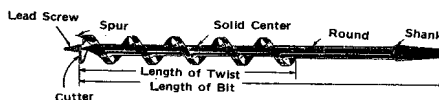

FIGURE 1. Auger Bit.
- 2.02 *Auger Bit*: This bit consists of a solid center twist provided with a head containing a single cutter, a single spur, and a lead screw, the threads of which are 14 per inch on the three smaller sizes and 12 per inch on the remaining sizes. See Figure 1.